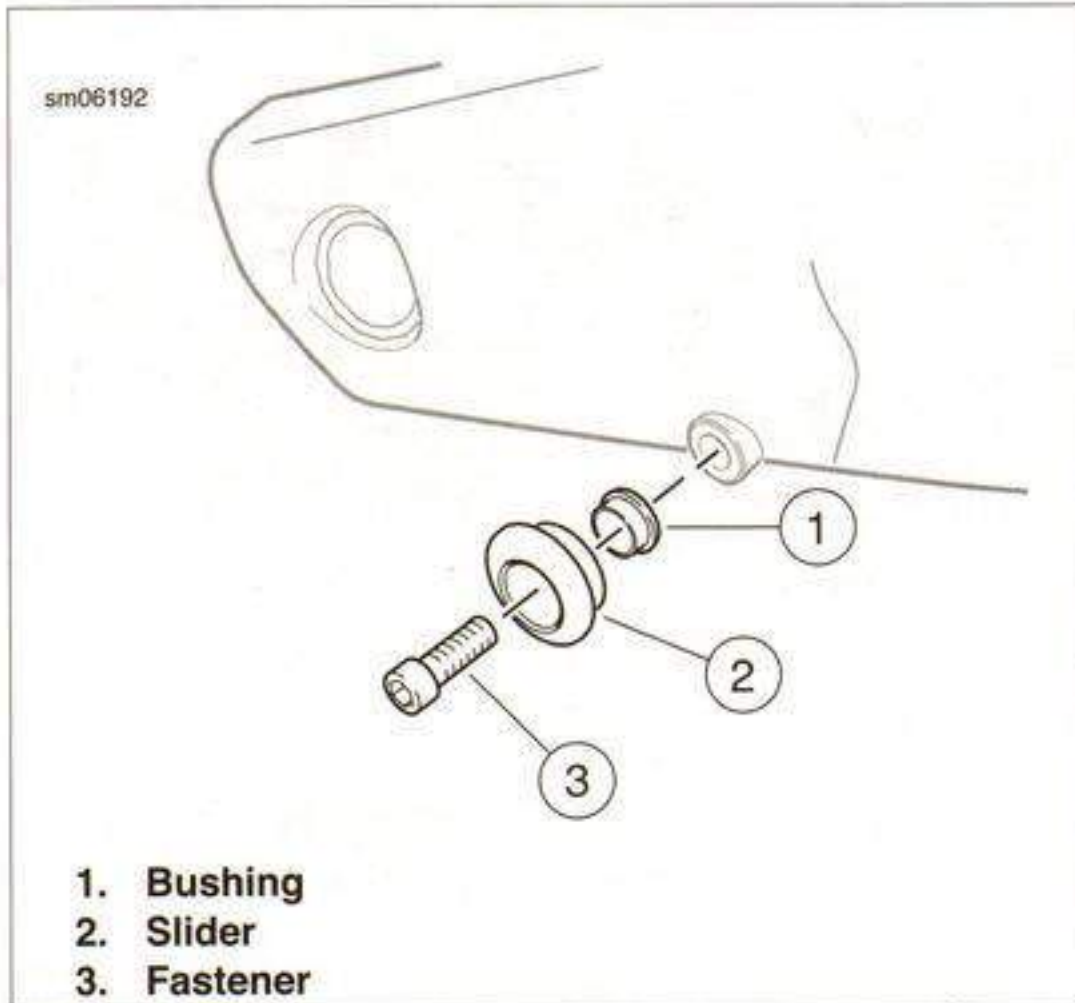

Figure 2-107. Axle Slider
1. See Figure 2-107. Assemble the bushing (1) with the slider (2) and install with the fastener (3).